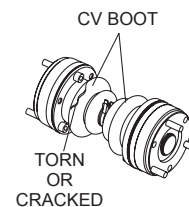

Figure 14. CV Boot Inspection
- Before installing the CV axle assembly, ensure rubber boots are not cracked or worn (Figure 14). If boots are damaged, replace immediately.